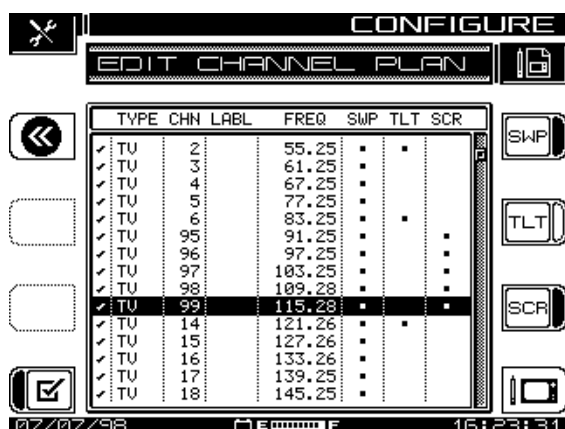

Fig. 3-8 The EDIT CHANNEL PLAN Screen
1. From the main CHANNEL PLAN menu, select Edit Channel Plan and press the icon to the right of the Edit Box. The EDIT CHANNEL PLAN screen appears (see Fig. 3-8).
1. From the EDIT CHANNEL PLAN screen (Fig. 3-8), select the channel that you are going to configure as digital, then press the Edit Channel soft key or the Enter keypad key.